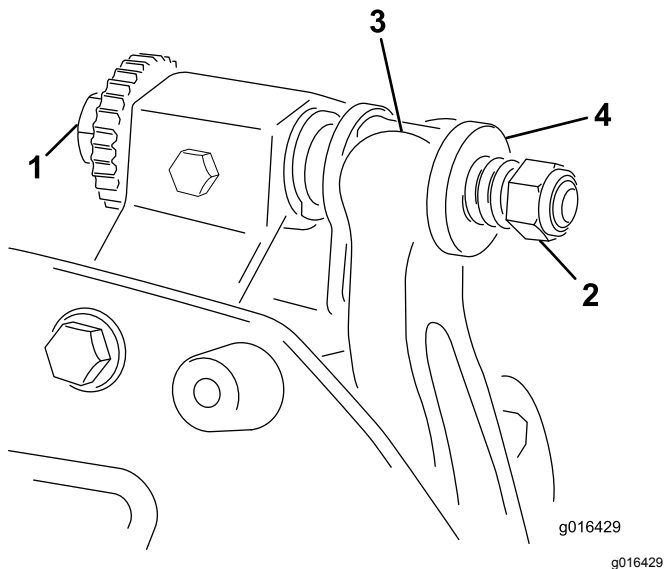

Figure 20
1. Turn the bedbar adjusting screw, counterclockwise, to back the bedknife away from the reel (Figure 20).
2. Back out the spring-tension nut until the washer is no longer tensioned against the bedbar (Figure 20).
1. Install the bedbar, positioning the mounting ears between the washers and the bedbar-adjusting screw (Figure 20).